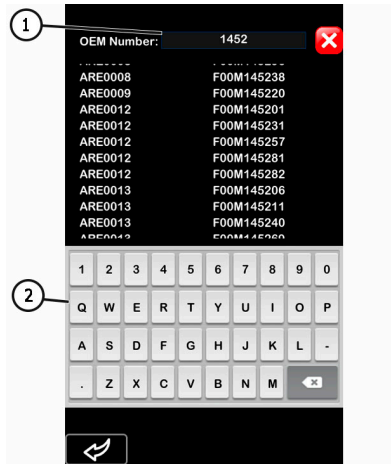

Figure 15. Regulator search menu in the database
Open the search menu and enter the OEM number into the search field using the keyboard (pos. 1, Fig. 15). As you type, a list of matching options will appear.